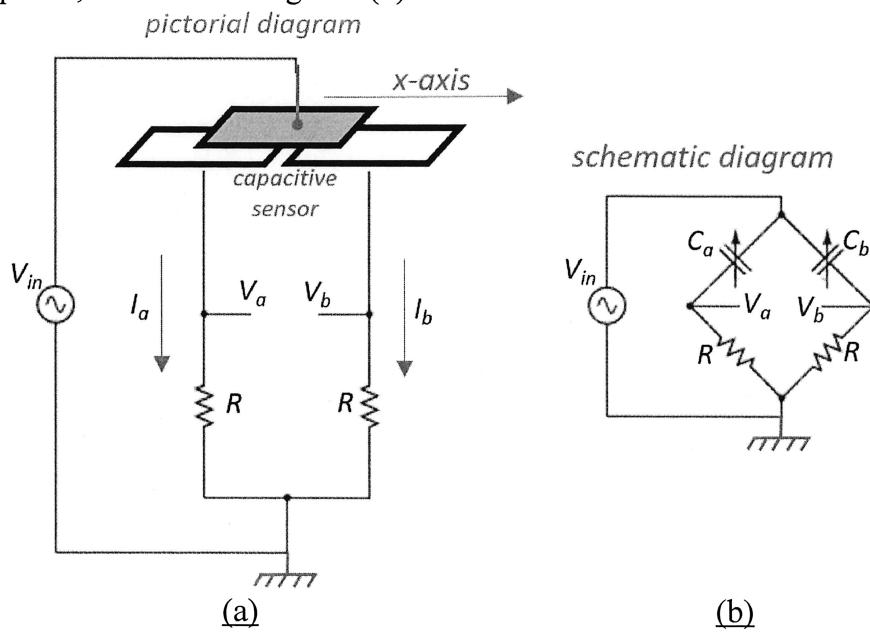

Figure 1
3. A capacitive sensor and its relative bridge measurement circuit are represented in Figure 1. The sensor consists of three rectangular and conductive plates of similar length  $L$  (along the  $x$ -axis) and width  $W$ . One moving plate (grey colour in Figure 1) can slide back and forth, along the  $x$ -axis, on top of two fixed plates (white colour in Figure 1(a)). When the grey plate is in its ‘zero’ position ( $x=0$ ), the system is in a symmetric configuration, i.e. it overlaps equally with both fixed plates (half of the area overlaps). Assume that the capacitance between two plates is proportional to the overlapping area, with a maximum value  $C_0$  when their area fully overlaps.
Electrically, this system of capacitances is in a bridge configuration, with two similar resistors  $R$  connected to the fixed plates as in Figure 1. The bridge is driven by an AC voltage source  $V_{in}$  and the output  $V_{out} = V_b - V_a$  is voltage difference between the two fixed plates, as shown in Figure 1(b).